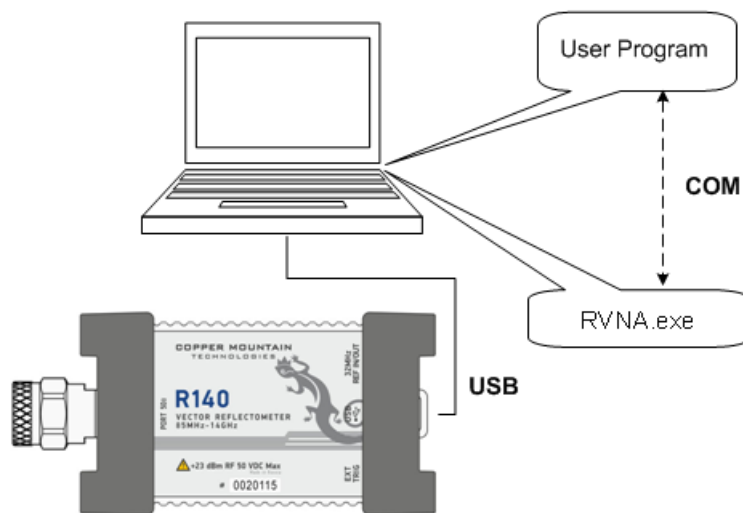

Figure 1. COM technology
*Local server* runs on the same PC with the automation controller and each of the programs is executed as an individual application in a separate window. COM technology is used in this case (Figure 1).